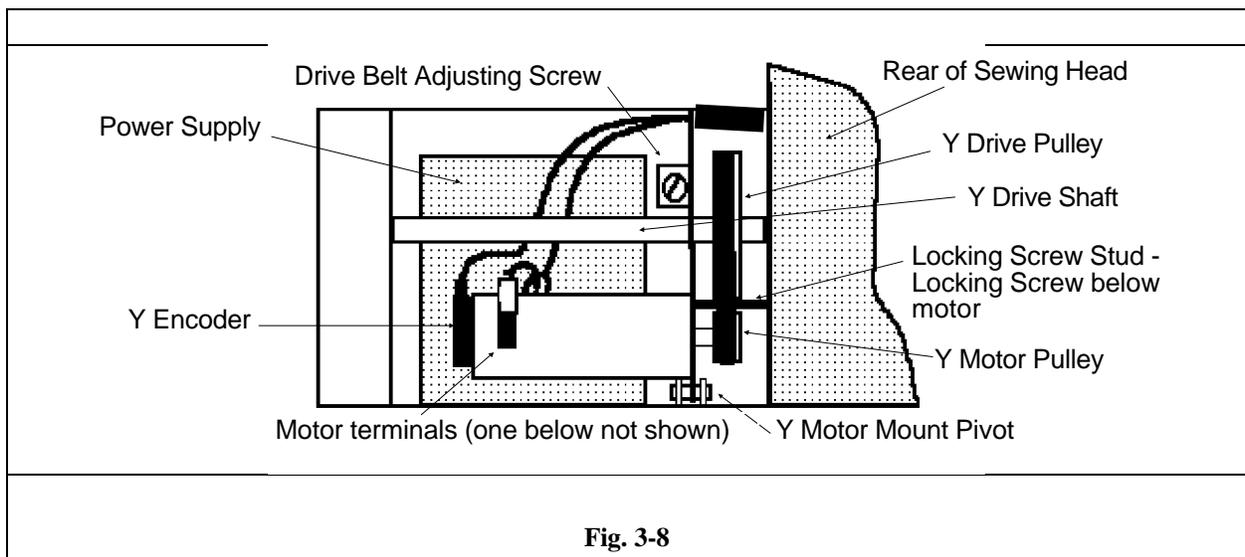

Fig. 3-8
5. Locate and remove the attaching/adjustment screw and the Y Motor Support Bracket Locking Screw, under the Motor(see Figure 3-8).